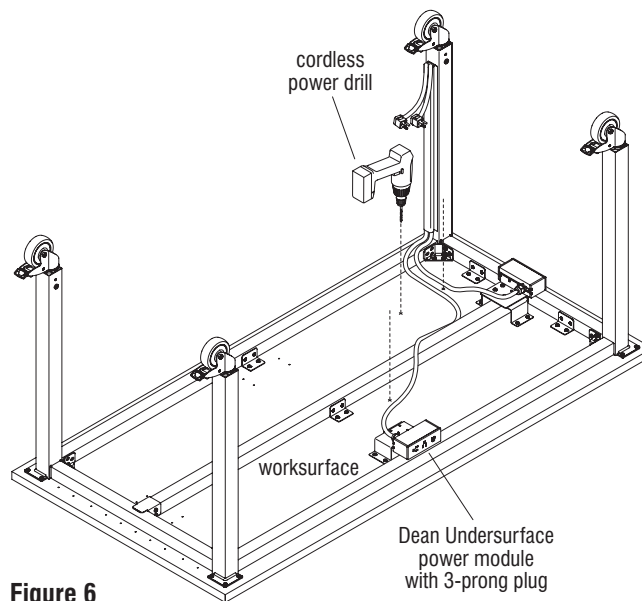

Figure 6
1. Position the undersurface wire managers in the desired locations to hold the Dean Undersurface power module cords in place, then mark the mounting hole location of each wire manager and move the units away (Figure 6).